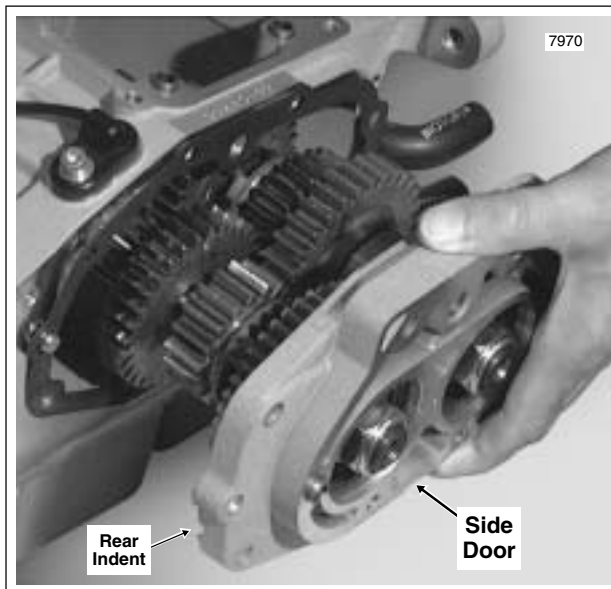

Figure 7-27. Remove Transmission Side Door
6. See Figure 7-27. Remove the six socket head screws (bottom four with flat washers) to free both the side door and transmission exhaust bracket from the transmission case. Pull the side door, mainshaft and countershaft from the transmission case as a single assembly. Remove and discard the door gasket.
DO NOT USE A HAMMER TO REMOVE THE SIDE DOOR. If the side door sticks or binds on the locating dowels, gently pry open using the indents at each side of the door. See Figure 7-27.